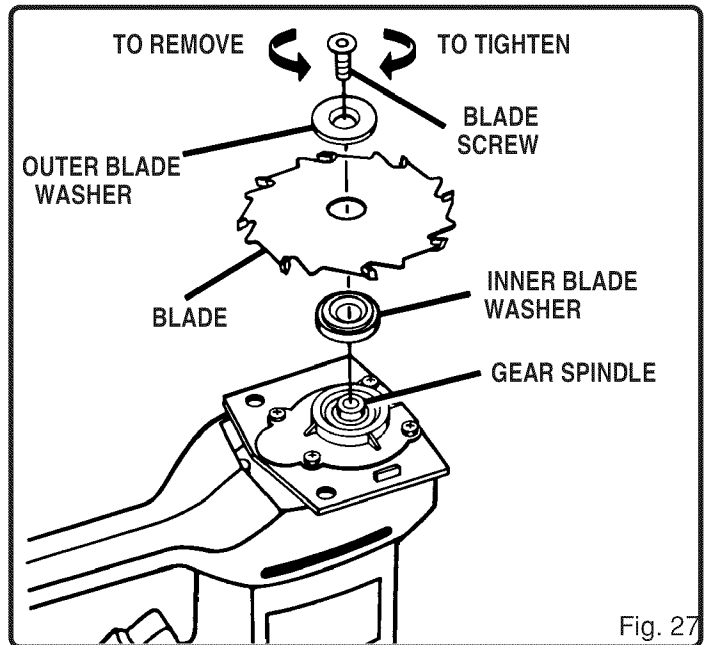

Fig. 27
- NOTE:** Turn blade screw counterclockwise to remove. See Figure 27.
- Place inner blade washer on gear spindle. See Figure 27.